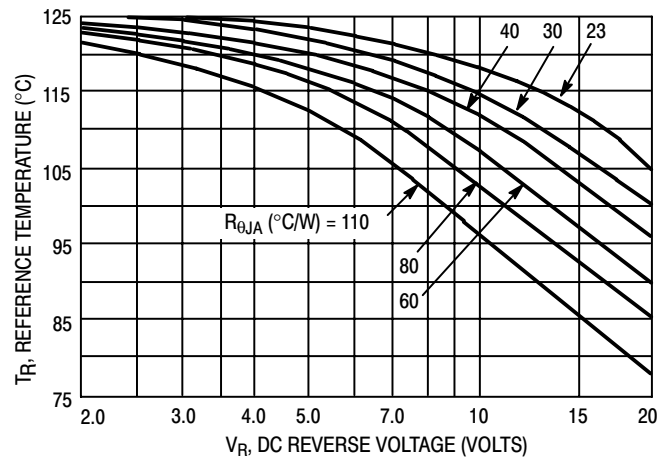

Figure 1. Maximum Reference Temperature
Figures 1, 2, and 3 permit easier use of equation (1) by taking reverse power dissipation and thermal runaway into consideration. The figures solve for a reference temperature as determined by equation (2).
Inspection of equations (2) and (3) reveals that T_R is the ambient temperature at which thermal runaway occurs or where $T_J = 125^\circ\text{C}$, when forward power is zero. The transition from one boundary condition to the other is evident on the curves of Figures 1, 2, and 3 as a difference in the rate of change of the slope in the vicinity of 115°C . The data of Figures 1, 2, and 3 is based upon dc conditions. For use in common rectifier circuits, Table 1 indicates suggested factors for an equivalent dc voltage to use for conservative design, that is: